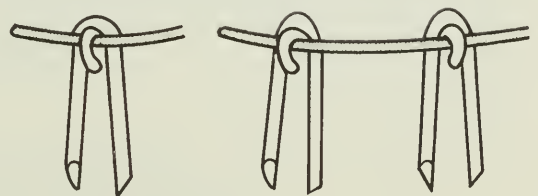

Fig. 40 Stapling around curves or corners.
6. When stringing and tensioning line wires around the outside of posts stapling can be used to reduce friction. Simply hang a staple over the securing staple and between the wire and the post so the line wire is sliding on the staple rather than the post (Fig. 40).